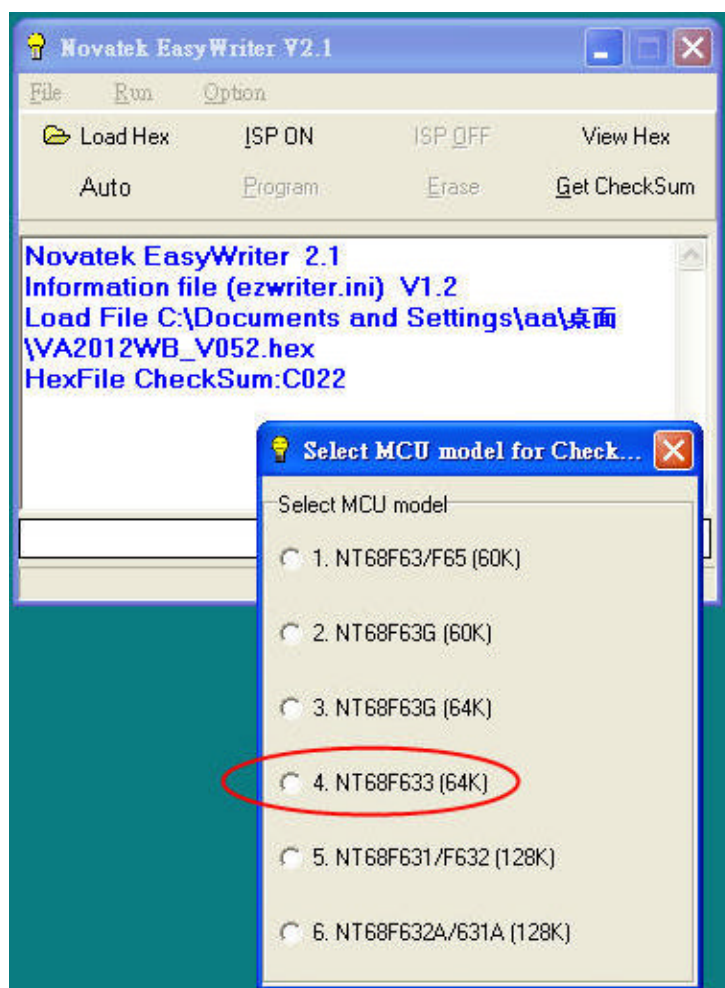

Fig.2.2
2.2 Select item 4“4.NT68F633(64k) IC , see fig2.2